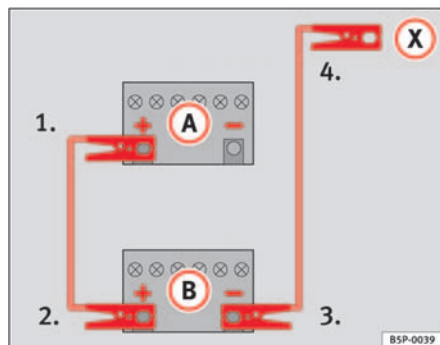

Fig. 170 How to connect the jump leads
In ⇒ fig. 170, the flat battery is (A) and the charged battery (B).
1. Connect one end of the red jump lead to the positive ⇒ fig. 170 (+) terminal of the vehicle with the flat battery ⇒ ⚠.
4. Connect the other end of the black jump lead (X) to a solid metal component which is bolted on to the engine block, or onto the engine block itself of the vehicle with the flat battery. Do not connect it to a point near the battery ⇒ ⚠.